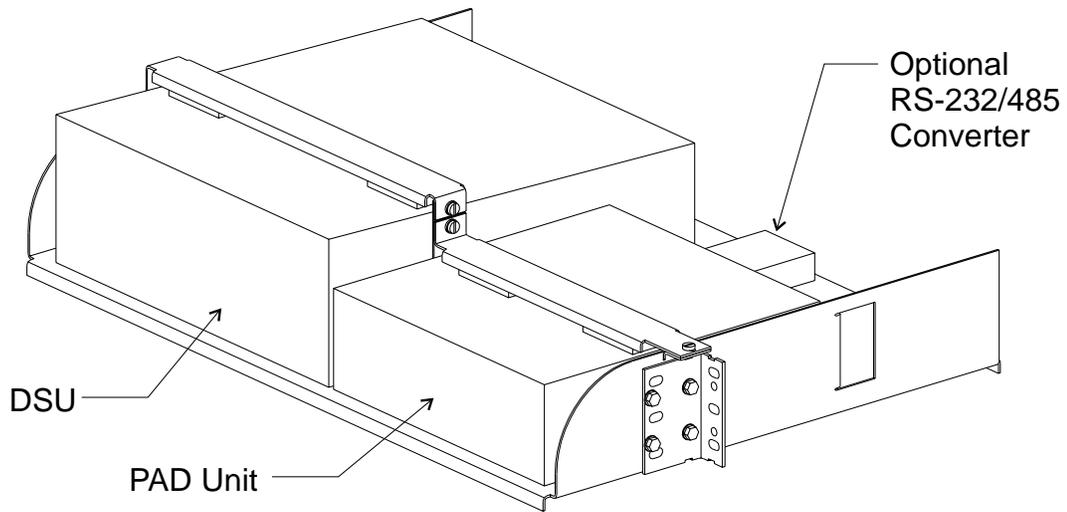

Figure D-4: PAD and DSU Mounting Shelf
1. Set the units on the shelf in the positions shown in Figure D-4, making sure the feet on the bottom of the unit protrude through the holes in shelf.